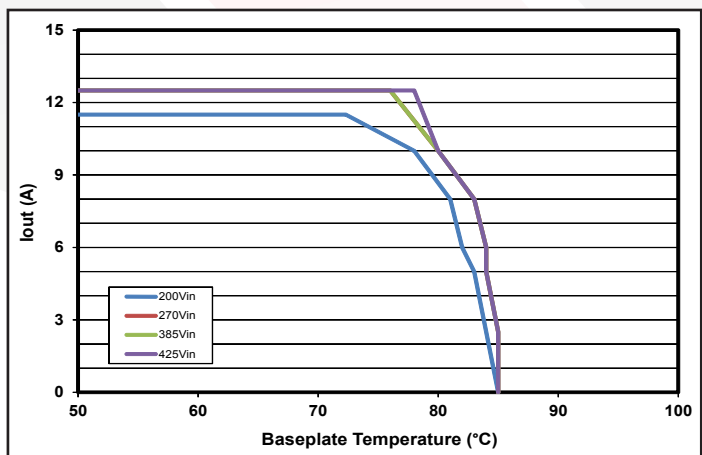

Figure 5: Maximum output current vs. base plate temperature (nominal output voltage).
**AVAILABLE OUTPUT POWER:** The HE output power can be limited by several means. Typically at lower lines, the available output power is a function of the maximum input current that the integrated Buck/Boost can deliver. At higher lines, the output power will be limited by the lesser of 600W or Imax. Thermal considerations may affect maximum deliverable power. See Figures 5 and C.